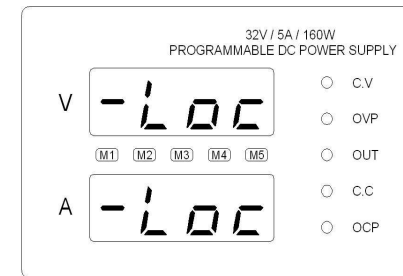

FIG.4 Lock status Figure
- (4). Over-current close settings, press the SHIFT key, panel indicator led M1~ M5 are lighted, then press the OUTPUT key ,at this point the power supply run in the over-current close mode . When the overload OCP led is lighted and cut off the output voltage.
- (5). Panel button lock, at the normal output apparatus can use the feature, which is mainly in order to avoid the load when connected to adjust the output voltage to the harmful effects of the load, The use of panel keypad lock is on, press the keyboard key lock (LOCK) 2 second or more, digital display "-Loc", said keyboard panel has been locked, the keyboard is locked, the Operation panel is displayed when "-Loc" prompt, all keys are not working, unlock long again by the button, you can return to normal status, see FIG.4: